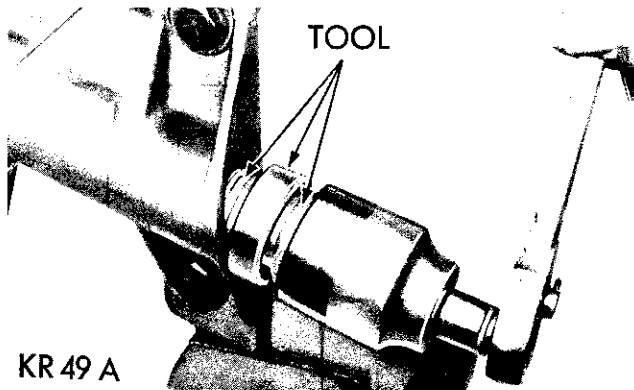

Fig. 24—Removing Gear Shaft Oil Seal
(6) Remove the gear shaft, grease retainer with adapter SP-3056 and Tool C-3350 (Fig. 24) as follows: